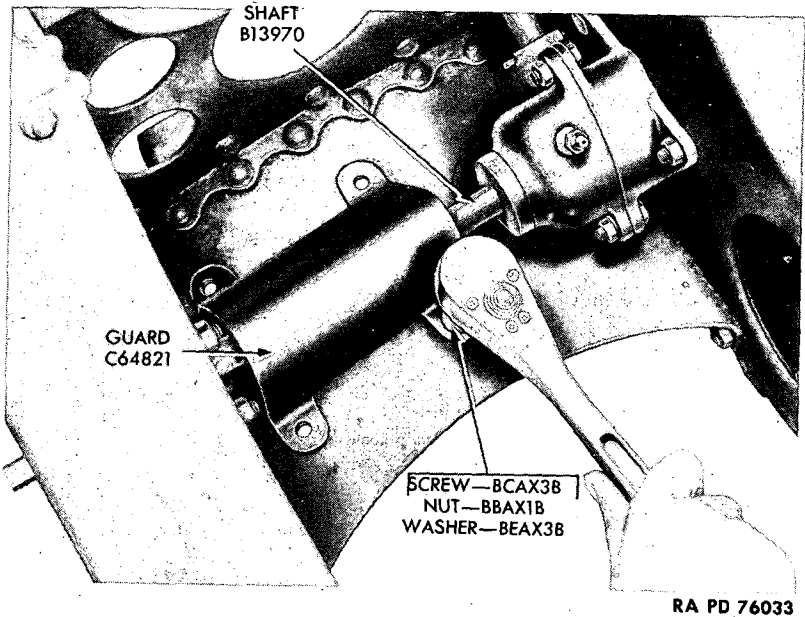

Figure 74—Removing Elevating Crankshaft Guard
(5) REMOVAL AND DISASSEMBLY OF ELEVATING CRANK SHAFT (figs. 74, 75, and 76).
(a) Remove elevating crank shaft guard by removing the four screws, nuts, and washers (fig. 74).